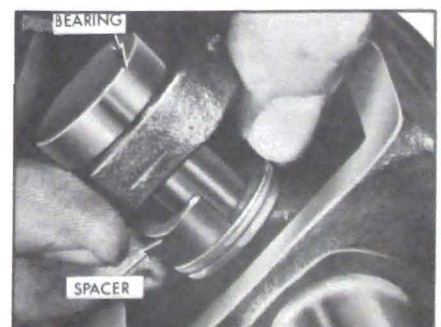

Figure 6-54—Installing Spacer
4. Release the pump and remove the propeller shaft. Install Spacer J-9522-5 over the spider journal at the space provided with the bearing forced partially through the link yoke. See Figure 6-54. Reposition propeller shaft in fixture as before and force with the added assistance of the Spacer.